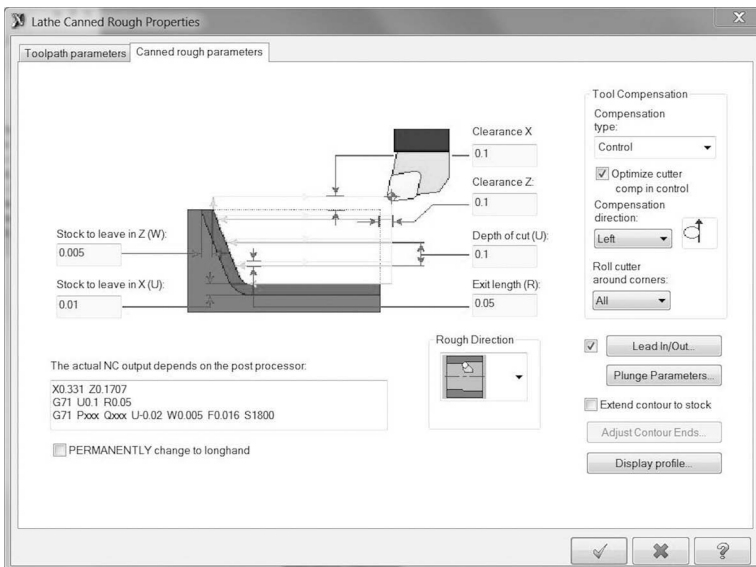

Figure 5-79 Bore Rough Parameters
- For the Canned rough parameters tab, change the entries to match Figure 5-79.